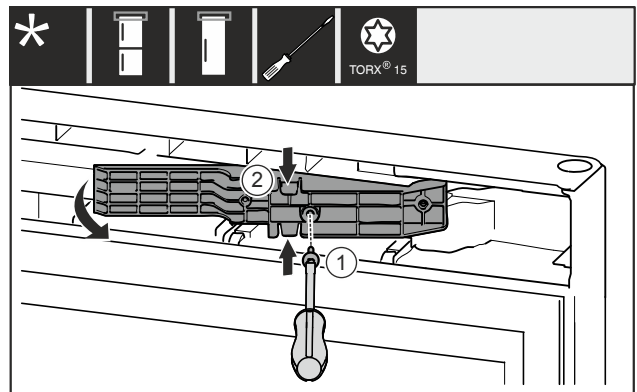

Fig. 14 *
- ▶ Remove the screw Fig. 14 (1).*
- ▶ Gently press the top and bottom of the adapter piece Fig. 14 (2) together and pull it out.*